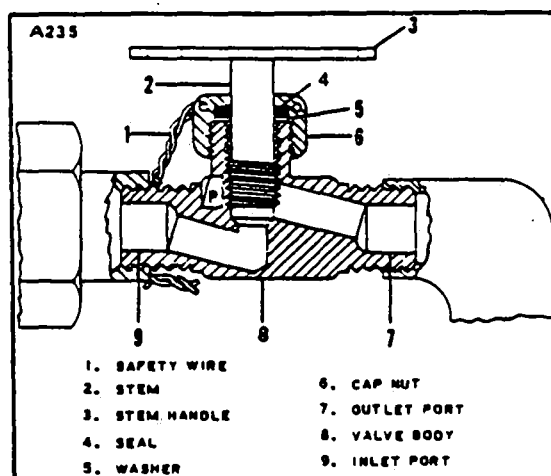

Figure 13-29. Heater Fuel Valve
**13-122. INSPECTION AND REPAIR OF HEATER FUEL VALVE.** (Refer to Figure 13-29.)
- b. The stem assembly (2) may be removed by unscrewing the cap nut (6) with stem handle (3).
- d. If any part of the stem assembly (2) is damaged or if the cap nut (6) is not drilled for safetying purposes, replace the assembly.
- e. Reassemble the unit and tighten the cap nut (6) tight enough to prevent leakage but not to hamper turning the stem handle (3).